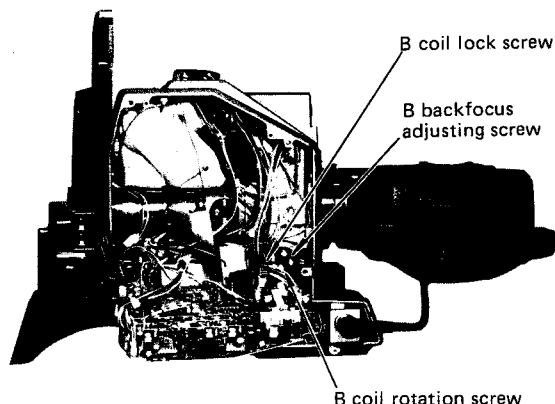

Fig. 5-4-21
- o Loosen the B coil lock screw (B LOCK) slightly and turn the B coil rotation screw (B ROTATION) slowly and carefully (Fig. 5-4-25) so that the B horizontal (Black) lines of registration chart are parallel with the G horizontal (white) lines. (Fig. 5-4-21) The parallel can be confirmed by turning VR3 (B V-CENTERING) on the Deflection VIC board.